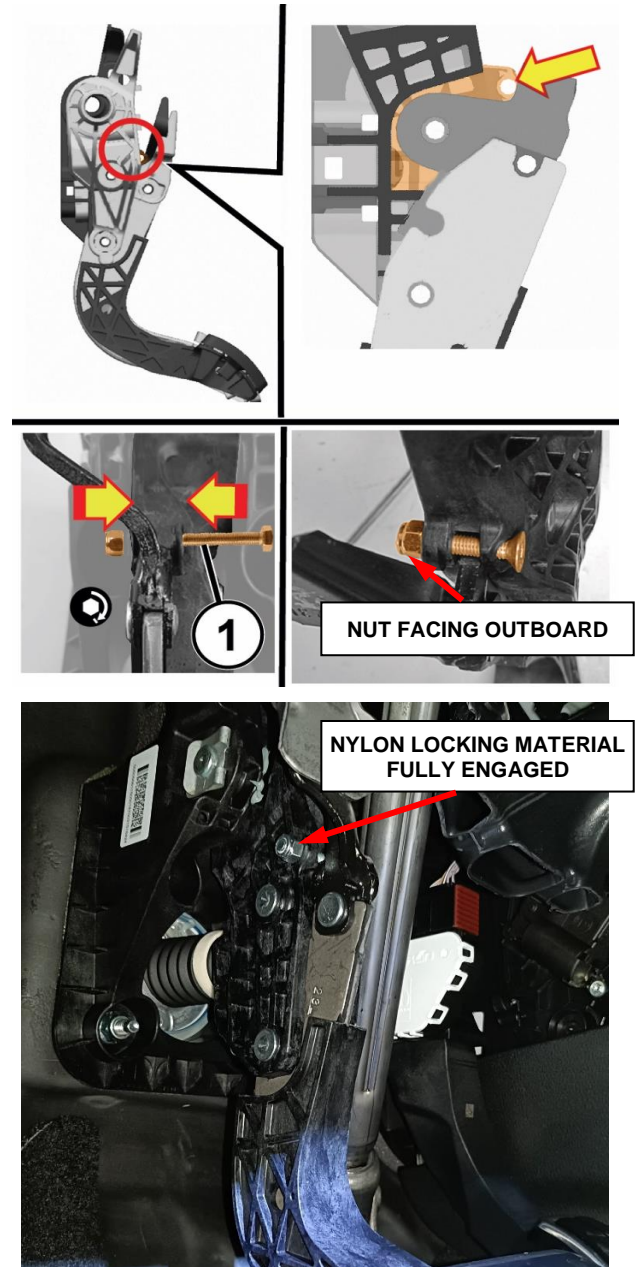

Figure 2 – Install New Screw
4. Install the **NEW** nut and **NEW** screw (1) into the hole in the pedal assembly as indicated (Figure 2).
5. Press the screw against the pedal until there is no slack between the screw head and pedal assembly. Drive the nut until the nylon locking material is fully engaged (Figure 2). Tighten the nut to 1.5 N·m (13 in. lbs.).